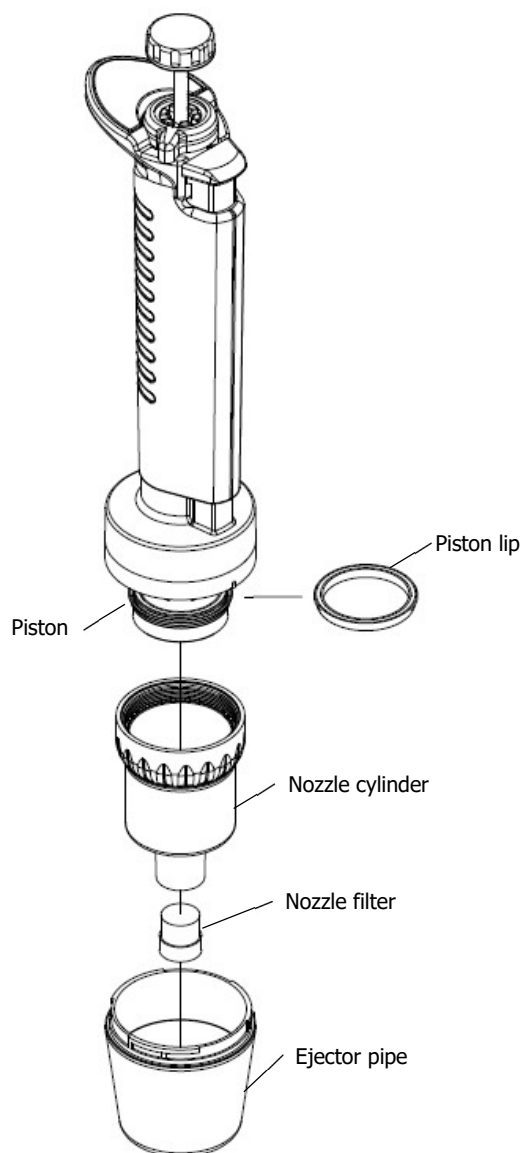

Fig. 4-7
- 5000 μ L, 10000 μ L : (Fig.4-7)